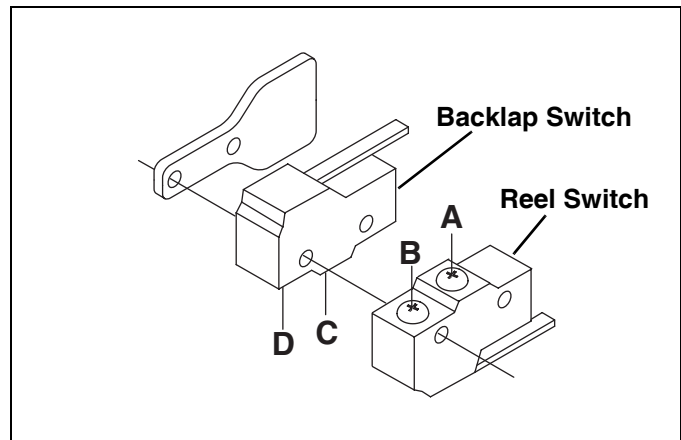

Figure 3K
1. Check and make sure switches are wired correctly. Refer to **Figure 3K** and labels attached to wires for correct terminal placement